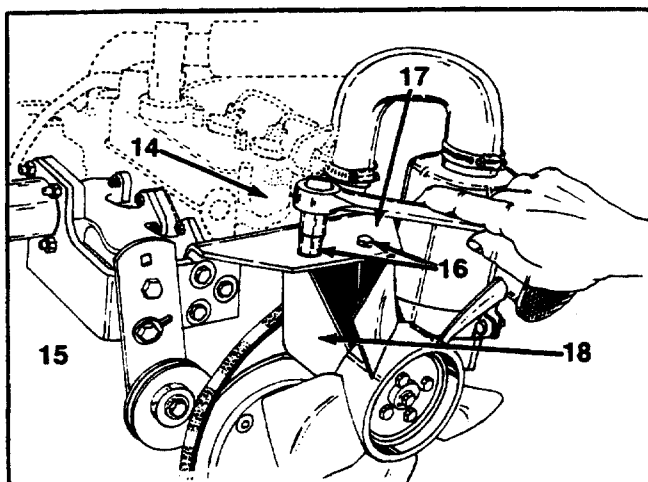

FIGURE 9.
10. Remove hex bolts securing the fan and fan drive support from the support bracket. See figure 9.
Upon reassembly of fan drive support, re-install the cable clip, holding the wire for P.T.O. clutch. See figure 9.